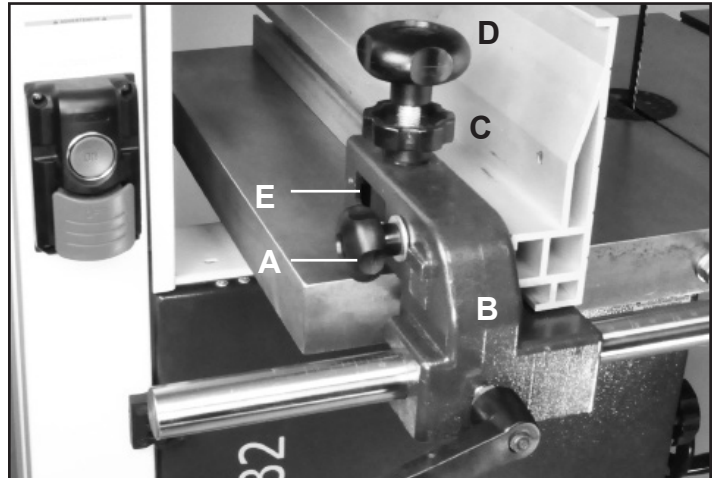

FIGURE 4
1. Loosen the side Handle (#7, Fig. 4, A) which holds the rip fence against the Fence Carrier (#9, B).
2. Loosen the Locking Knob (#2, Fig. 4, C).